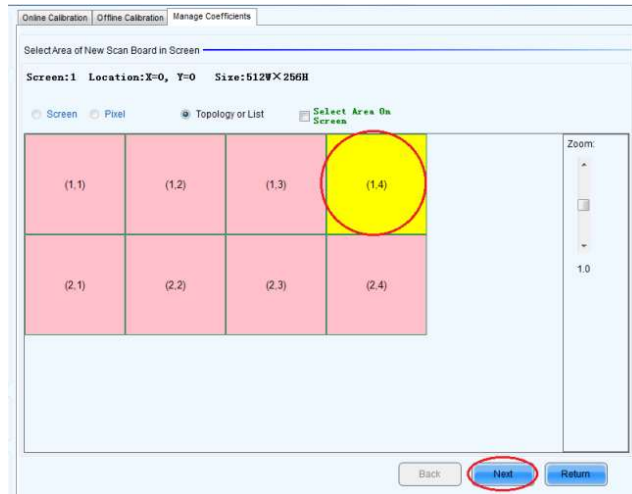

Fig 3-15 Selecting Area for New Receiving Card
- 1) As shown in Figure 3-15, select **Topology** or **List**. Select the position of the replaced receiving card. Click **Next**: